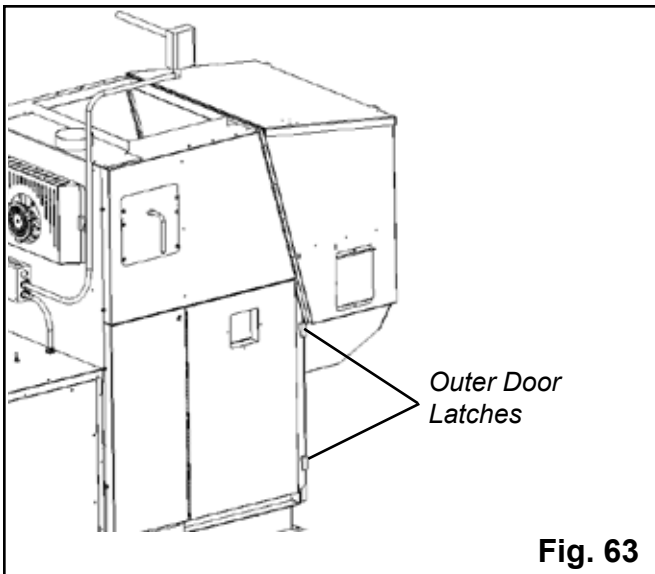
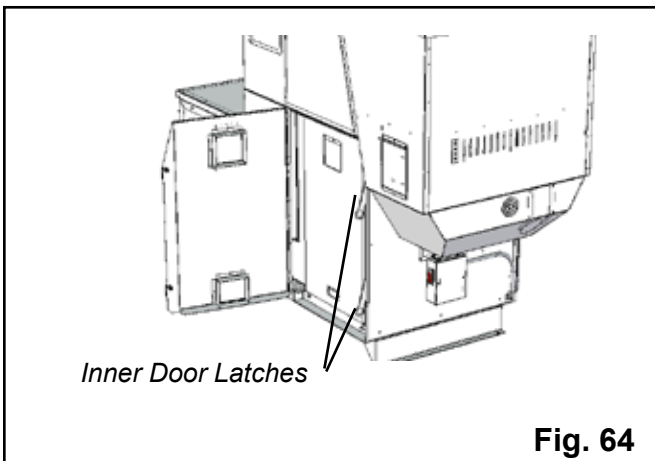

Fig. 63
Fig. 64
7. Open inner and outer ash doors as shown in figs. 63, 64, 65, on page 30.
Lift the two latches shown in figure 63 and open the outer door as shown in figure 64. If the Distribution Blower is running when the outer door is open, some air will escape around the door opening. This is not a problem, however any dust that is caused in the ash removal process can potentially be blown around.
Lift latches shown in figure 64 and open the inner door as shown in figure 65.